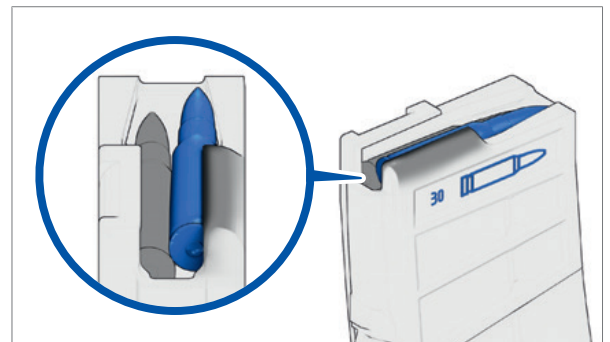

Fig. 72: Position of the last cartridge
4. Repeat steps 2. - 3. until the magazine is full (*Fig. 72*).